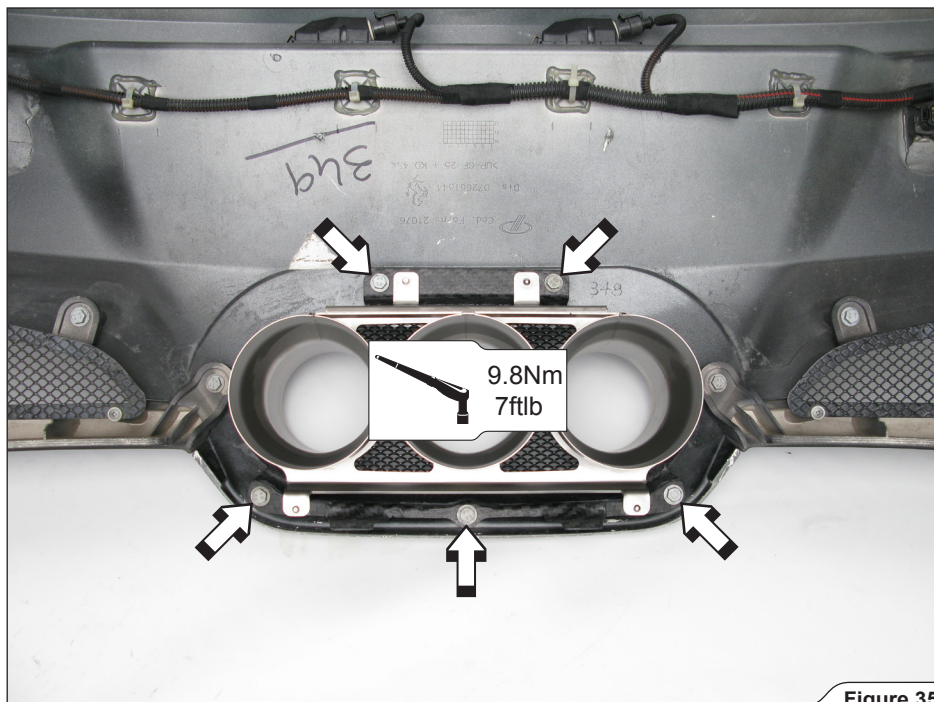

Figure 35
16. **For Slip-On and optional Link Pipes:** attach the Akrapovič Tail Pipes onto the rear bumper, using original bolts (Figure 35).